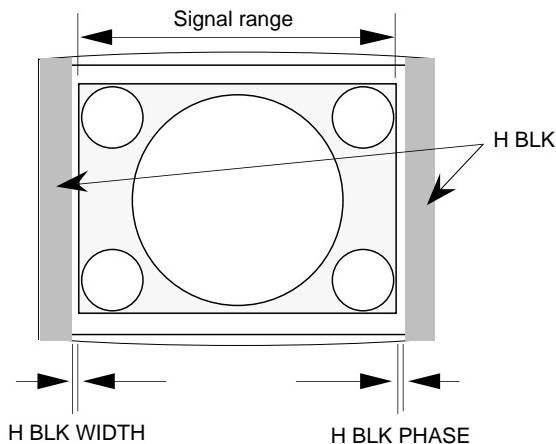

Fig. 1-7
6. Adjust the H BLK PHASE data and adjust so that H Blanking is 0.25 frame outside the right edge of the monoscope signal area. (Fig. 1-7)
7. Adjust the H BLK WIDTH data and adjust so that H Blanking is 0.25 frame out side the left edge of the monoscope signal area. (Fig. 1-7)